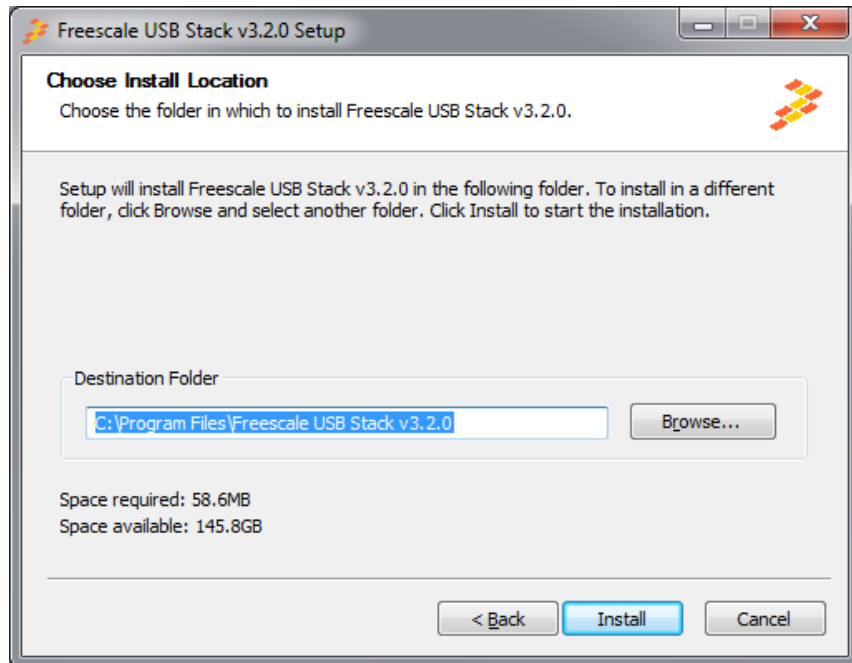

Figure A-4. Freescale USB Stack installation folder location
4. In Figure A-4, select the location of the folder where you require to install the Freescale USB Stack software and click on the **Install** button.